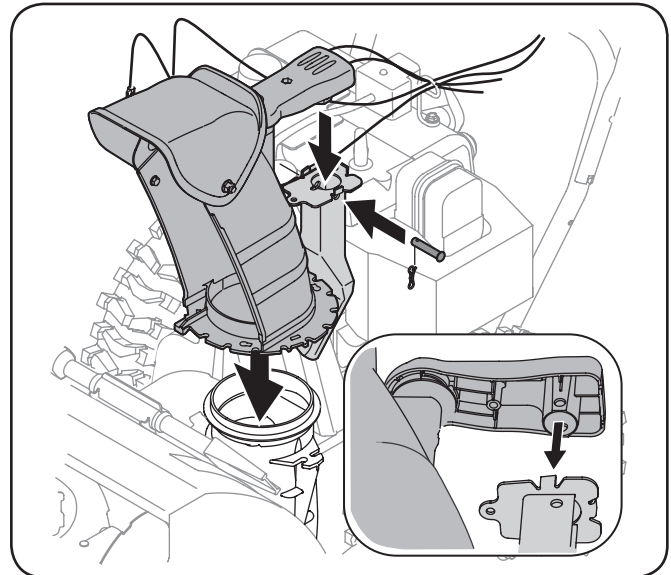

Figure 3-3
2. Place chute assembly onto chute base and secure chute control assembly to chute support bracket with clevis pin and cotter pin removed earlier. See Fig. 3-3.